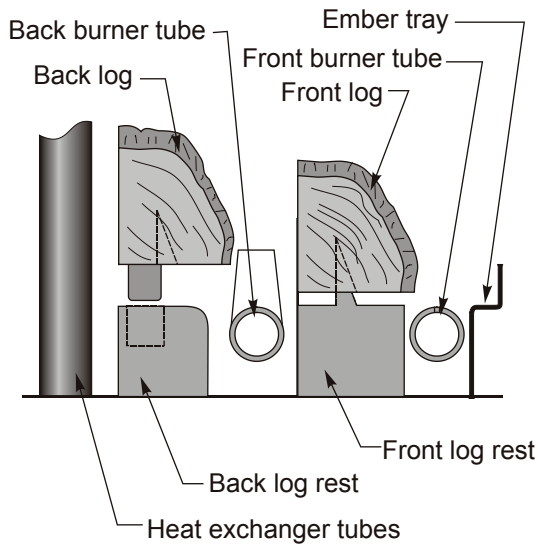

Figure 12a. Positioning for the top logs ('C' and 'D').
3. Place the Back log onto the back log rest as shown below in **figure 12a**. The log has lip on the bottom which fits into the slot on the log rest.
4. Place the Front log onto the front log rest as shown in **figure 12a**. Centre the log from side to side, and push it against the back of the log rest. Carefully push the log onto the metal spikes on the log rest.
- The logs may be cleaned periodically with a vacuum to remove dirt, dust and other contaminants. If the logs shift during cleaning, refer to **Figures 12a - 12c** for proper positioning.